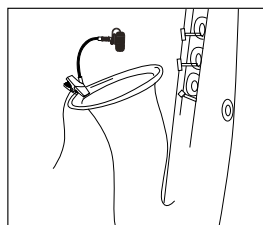

Figure 1
1. Attach the clamp to the desired location on the bell of instrument. (Figure 1)